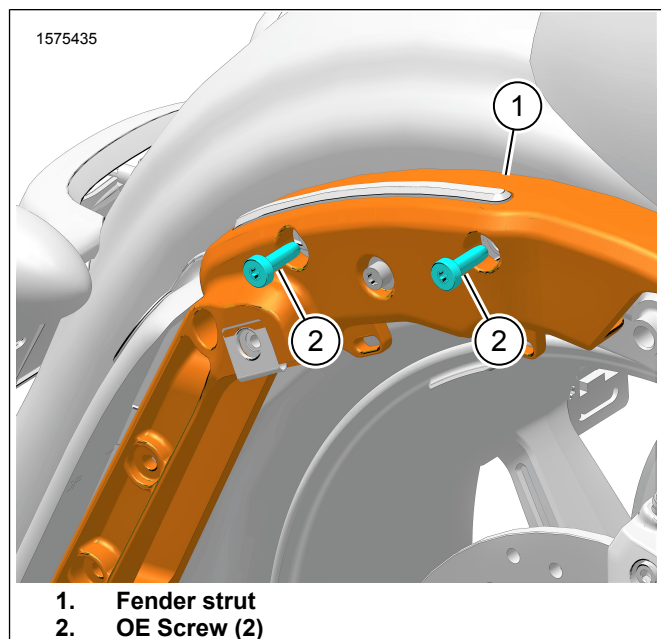

Figure 2. Fender Strut Screws
2. See Figure 2. Remove OE screws (2) from fender strut (1).